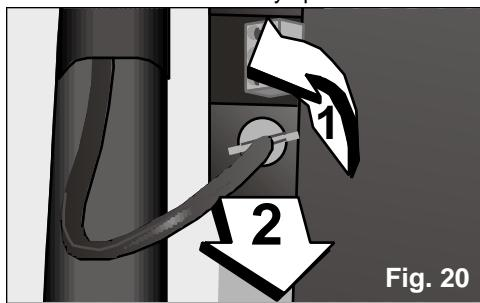

Fig. 20
- Dismantle the condensed water drainage tube by turning it a 1/4 turn anti-clockwise and remove it, **Fig. 20**. Be particularly careful when removing this tube as some of the water it contains may splash.
Make sure that the water tube is fitted properly to prevent water from dripping onto the support surface. To do this, follow the indications shown in Fig. 20 in reverse order.